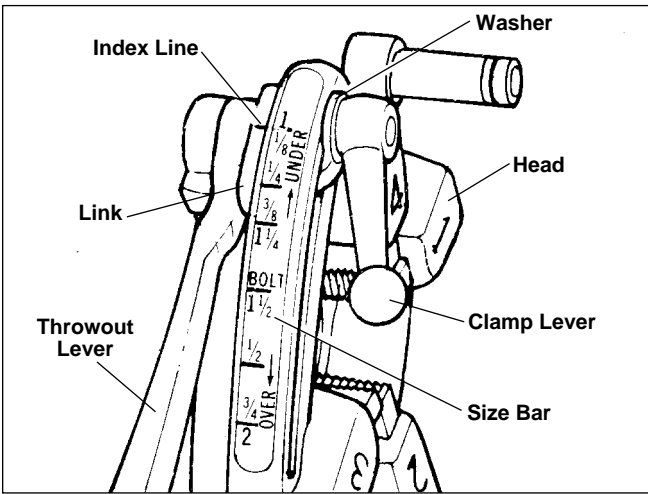

Figure 9 – Universal Quick-Opening Die Head
6. Quick-Opening 811A Die Head (Figure 9) – When thread is completed, rotate throwout lever to OPEN position, retracting dies.
The No. 811A Universal Die Head (Figure 9) for right hand threads requires four sets of dies to thread pipe ranging from 1/8" through 2". One set of dies is required for each of the following pipe size ranges: (1/8"), (1/4" and 3/8"), (1/2" and 3/4") and (1" through 2"). Bolt threading requires a separate set of dies for each bolt size. No bolt dies are available for left hand universal die heads.